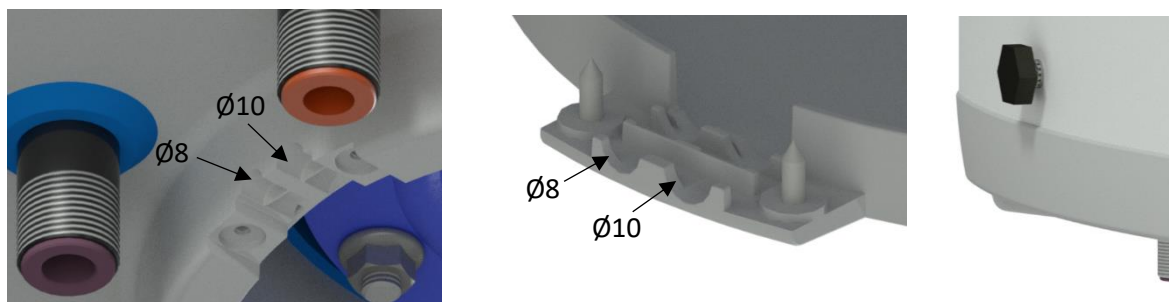
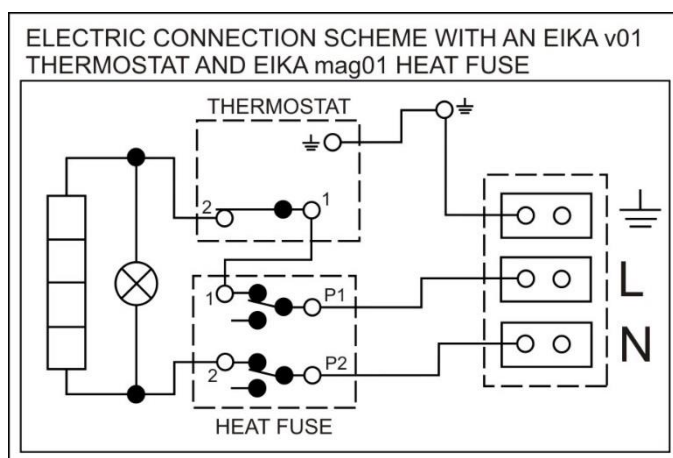

Figure 8
Figure 9
Perform the connection according to the scheme. Factory connection must not be changed! (Figure 9) the electric wiring casing remove the partition corresponding with the input wire diameter of $\varnothing 8$ or $\varnothing 10$ (Figure 8). The degree of protection of electric parts of the heater is IP 44. Power input of electric element is 2200 W.
- The electric wiring scheme is attached to the water heater on the side of the electric installation guard (Figure 9)